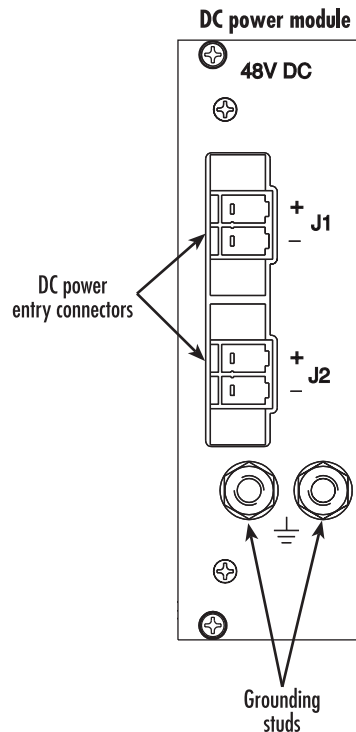

Figure 11. DC connector, -DC and +DC input view
2. Install the ground wire between the grounding studs (see figure 11 on page 29 for DC power entry) and the grounding source.